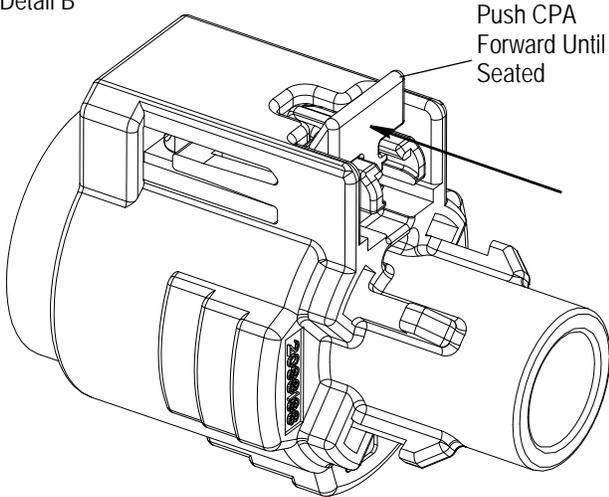

Figure 5
3. Push the connector and interface device together. Refer to Figure 5, Detail A.
4. Push the CPA lock forward until there is an audible and tactile "click"; locking the connector and device together. See Figure 5, Detail B. The CPA lock should be easy to engage. It will be difficult to engage if: